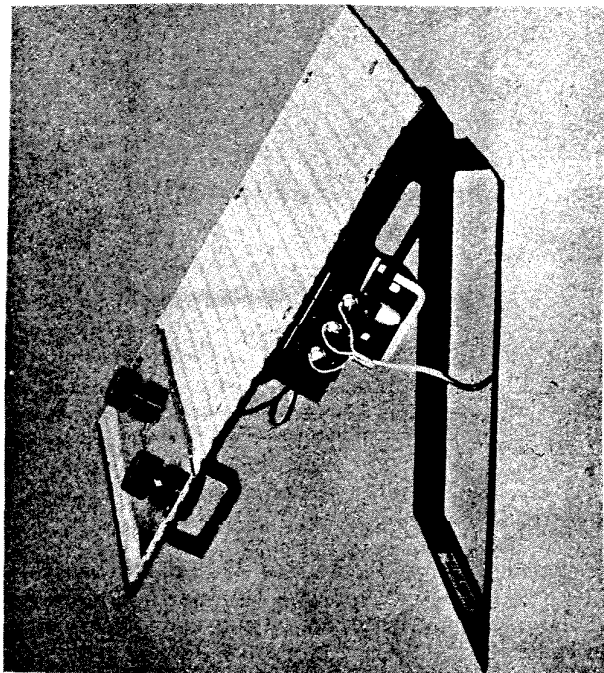
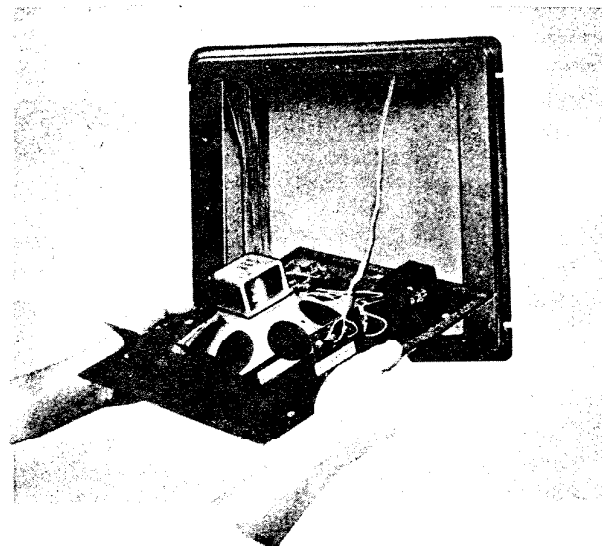

Fig. 10. Inside installation of Model 2020 remote speaker station.
Fig. 12. Outside installation of Model 2020 remote speaker station.
The Model 2020 speaker may be used in both inside or outside remote-station installations. An inside installation of the Model 2020 speaker differs from that of an outside installation due to differences in construction of the required rough-in frames. The rough-in frame for inside installations allows the speaker frame to mount flush against the wall (Fig. 10). The rough-in frame for outside installations protrudes from the wall (Fig. 12). With this type of rough-in frame construction, the seal around the speaker plate is secured to all four sides of the rough-in frame, thus providing the speaker and its associated components protection from the weather.
2. Two slots are provided in the back edge of the speaker guard plate. Position these slots over studs on the rough-in frame and lock in place by sliding speaker unit to the left. This supports the speaker while both hands are left free to make connections to the speaker terminals on the speaker guard plate (Fig. 10).
3. Connect the three-conductor wire in wall frame to the speaker terminals on the speaker guard plate as follows (Fig. 10):
2. Connect the three-conductor wire in wall frame to the speaker terminals on the speaker guard plate as follows (Fig. 12):